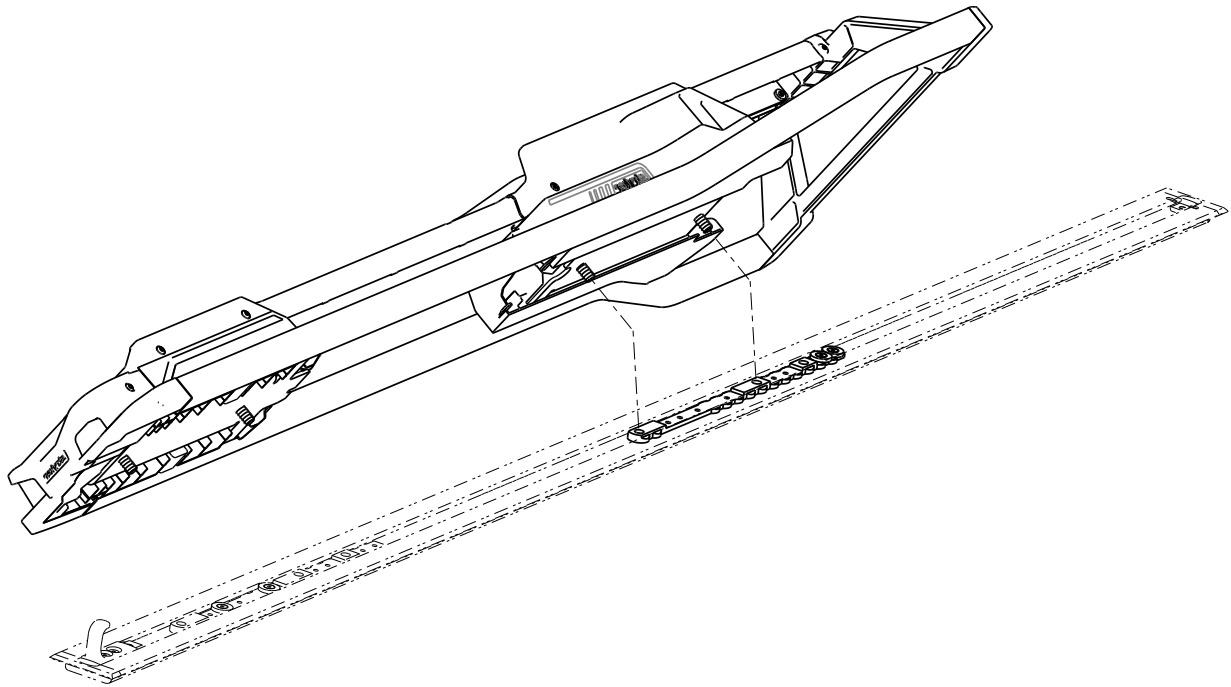

Figure 11 – Performance-LOAD alignment
1. Place **Performance-LOAD** on top of the floor plate assembly. Align the two bolts at the head end with the two holes in the cleat (Figure 11).